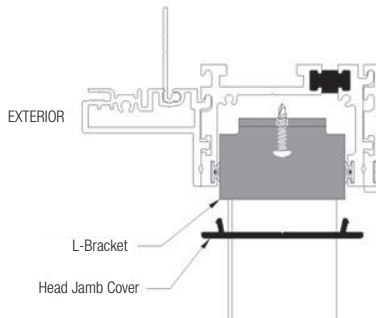

FIG. 23
- E) Install the side jamb track cover on the exterior of the locking side jamb by fitting it to the head jamb and gently insert it in place. (Fig. 23)